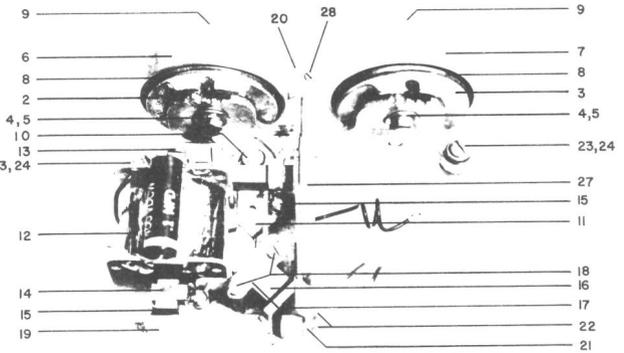
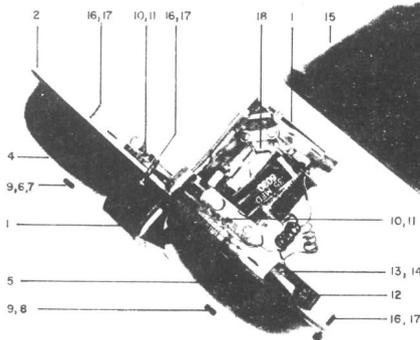

FIGURE 1 TOP VIEW
FIGURE 2 FRONT VIEW - COVER REMOVED
1.02 Figure 1 shows a typical B-type ringer and its component parts. Figure 2 illustrates a typical 301 subscriber set (loud ringing bell).